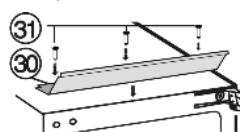

Fig. 24
- ▶ Fix the equaliser trim Fig. 24 (30) with screws Fig. 24 (31) in the pilot holes in the ceiling of the appliance.